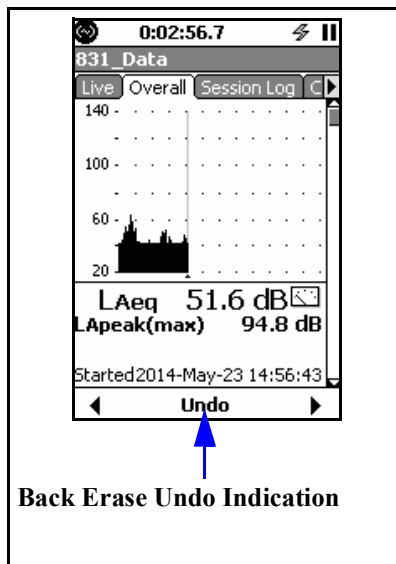

FIGURE 7-9 Back Erase Undo Indication
After pressing the center softkey to implement a five second back erase, if the measurement duration since the last Stop or Pause has been more than ten seconds, the center softkey will then be labeled **Back-10s**, as shown in FIGURE 7-9.
- Press the center softkey to extend the back erase to ten seconds. The center softkey will then be labeled **Undo** as shown in FIGURE 7-9.